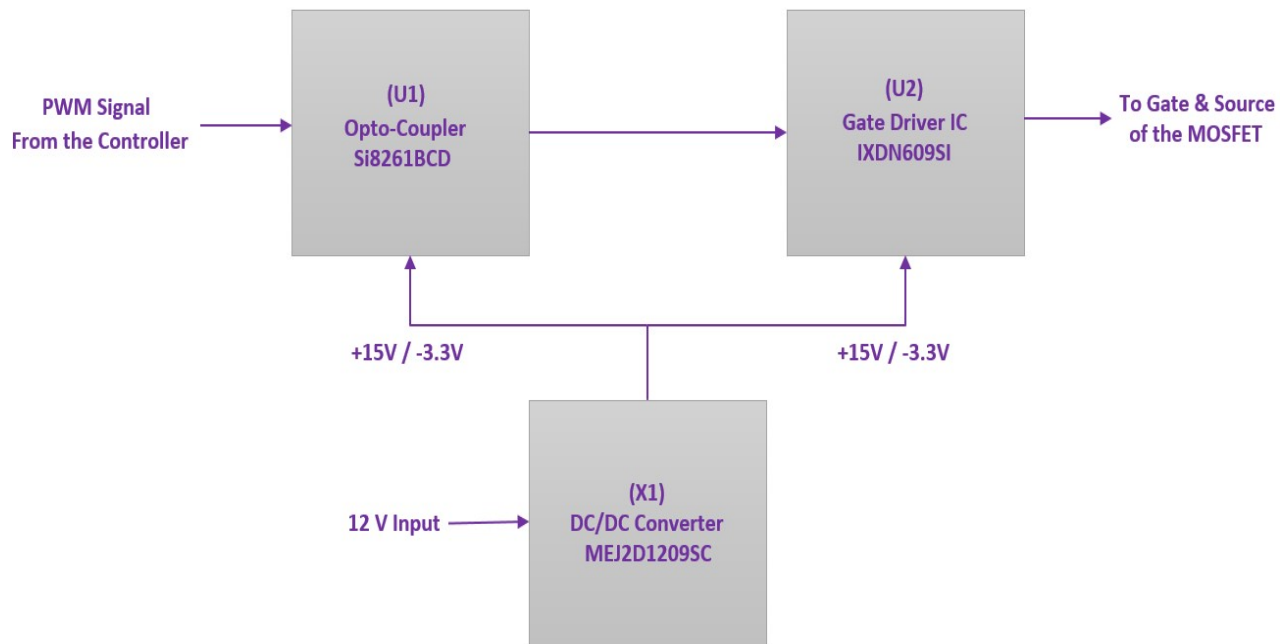

Figure 4. Block diagram of Cree's CGD15SG00D2 gate driver board for Cree's generation 3 SiC MOSFET
The block diagram of Cree's CGD15SG00D2 gate driver board for Cree's generation 3 SiC MOSFET is illustrated in Figure 4. It consists of an opto-coupler (U1), a gate driver integrated circuit (U2) and an isolated power supply (X1). The opto-coupler (U1) from Silicon Laboratories Inc. (P/N: Si826BCD) gets an input of pulse width modulation (PWM) signals and provides a high common mode immunity (35KV/us minimum, 50 KV/us Typical). A filtering capacitor across the optocoupler input has been provided.
Signal from the output of opto-coupler goes into an IXYS Corporation driver integrated circuit (IC) (U2) (P/N: IXDN609SI) as shown in Figure 4. U2 provides 35V of output swing and up to 9A of output current with a typical output resistance of 0.8  $\Omega$ .